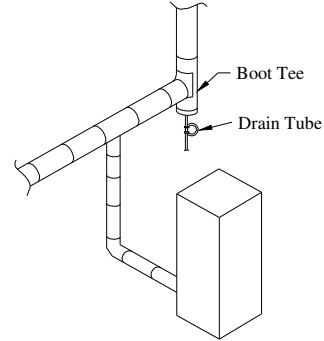

Fig 6A. (Boot Tee w/ Drain Cover & Tube)
- A SW In-Line Drain Section, Tee or Boot Tee with a separate Tee Cover Drain is strongly recommended. Install this drain fitting as close to the appliance flue collar as possible (See Fig. 6A).
- Use the Boot Tee to transition from horizontal to vertical and attach the Drain Tee Cover to the appropriate leg of the tee (See Fig 6A).